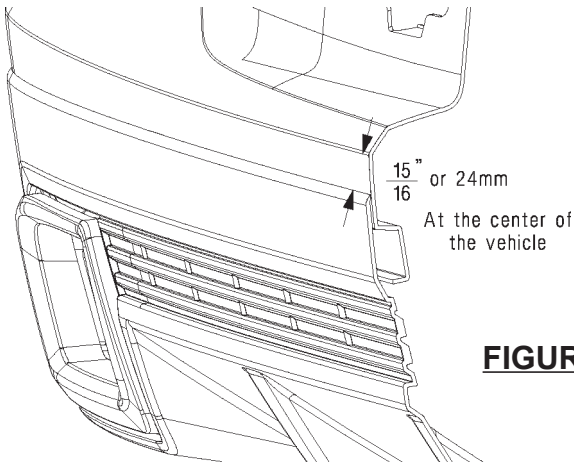
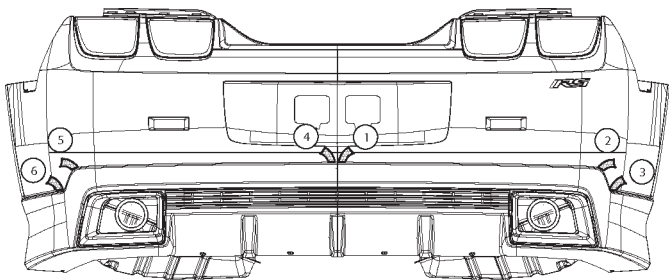

FIGURE 20A
FIGURE 20B
32. Align rear diffuser. Refer to figure 19a. Using 2 people, remove the tape tabs. Wet out after each tape tab removal by firmly pressing (15 Lbs.) against the cladding. Refer to figure 20a and figure 20b.